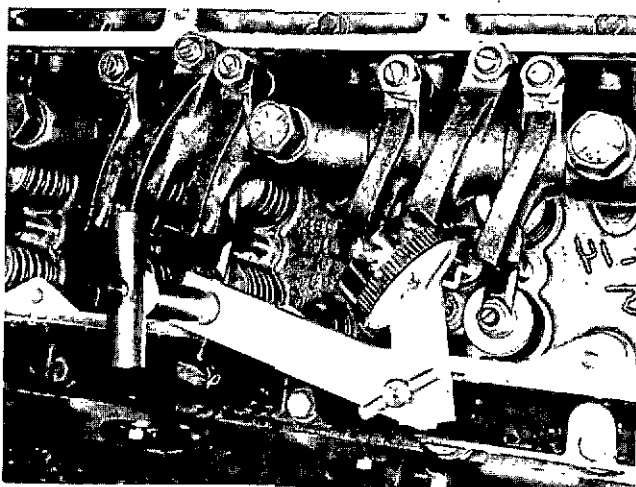

Fig. 2-35 (V514114) Dial indicator in place - extension in contact with plunger, V-903 Series
1. Set up ST-1170 Indicator Support with the indicator extension atop injector plunger flange at No. 2 cylinder. Fig. 2-35.